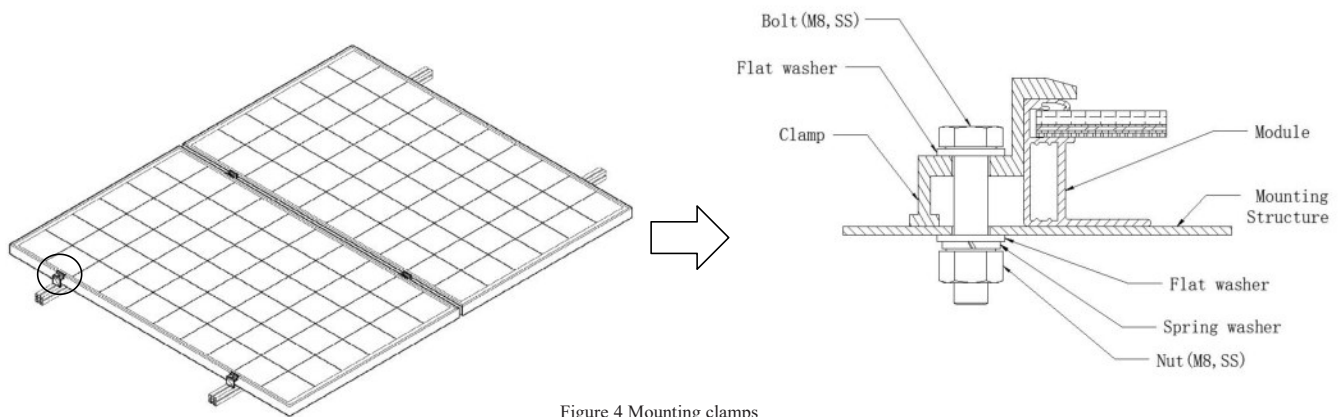

Figure 4 Mounting clamps
- Briquette installation: Use a suitable briquette and fix it with components and mounting brackets, as shown in Figure 4.